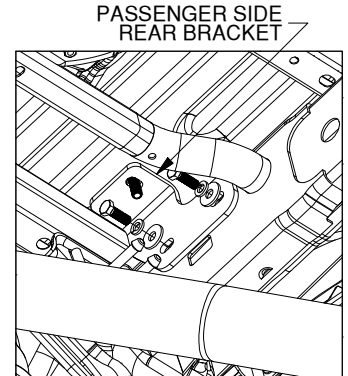

FIGURE C5: View looking up at passenger side frame.
7. **Install the passenger side rear bracket.** Locate the passenger side rear bracket, two M12 x 35mm hex head bolts (shorter), two 1/2" split lockwashers, and two 1/2" flat washers. Position the bracket under the installation location of the rear passenger side carriage bolt. Maneuver the bracket so that the 1/2" carriage bolt passes through the slot at the top of the bracket. Using 1/2" lockwashers and 1/2" flat washers, Thread the shorter (35mm) M12 hex head bolts into the frame through the holes in the bracket, see figure C5.